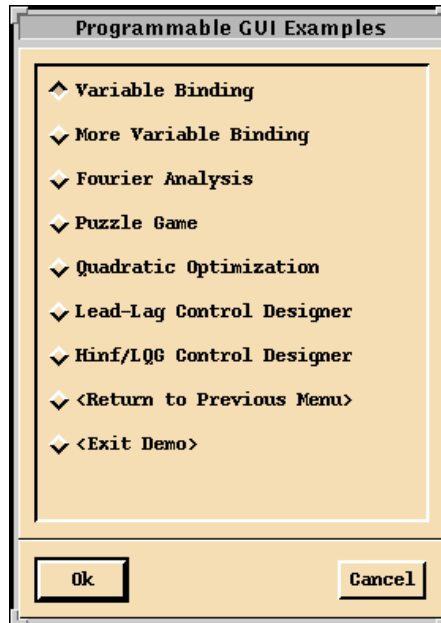

Figure A-1. Programmable GUI Examples
To see a menu of Programmable GUI examples, enter `guidemo` from the Xmath command area. This displays the menu of GUI demos shown in Figure A-1.
- A single-selection list allows only a single line to be selected. Clicking the left mouse button selects a line. This is the type of list that appears in the window shown in Figure A-1.